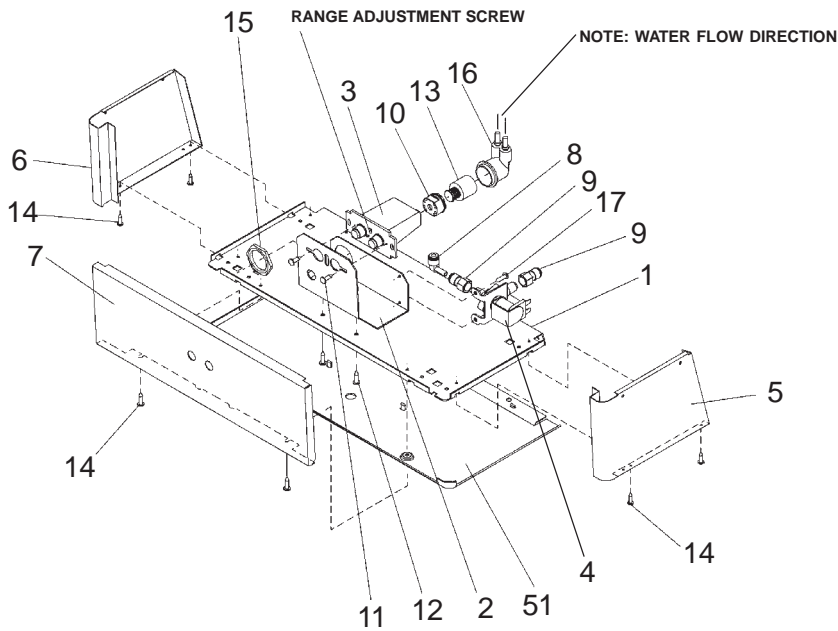

FIG. 3
See Fig. 3 (on Page 3)
- Using a small tip screwdriver, rotate range adjustment screw clockwise to increase range and counter-clockwise to decrease range. (See Fig. 3).
- Stream height is factory set at 45-50 PSI. If supply pressure varies greatly from this, readjust stream height to approximately 1-1/2" (38mm) above the bubbler guard by turning adjustment screw, accessible by removing front panel, Item No.7 (see Fig.3 & 5).
- Replace the front panel and secure by retightening four (4) screws.